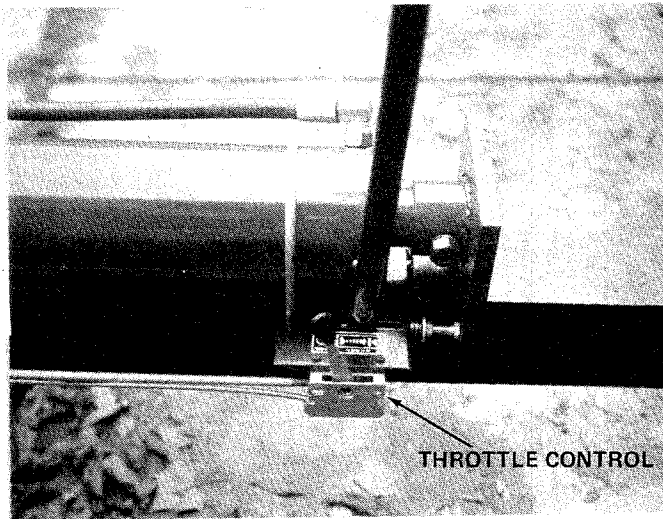

FIGURE 8
1. Place throttle control lever (on beam) in run position. See figure 8.
1. Move throttle control lever to STOP position. See figure 8.